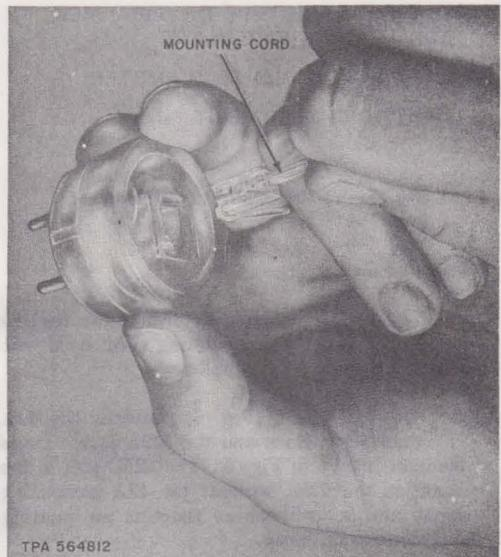

Fig. 10—225A Adapter
(b) The 225A adapter (Fig. 10) is used to adapt the D4BU mounting cord to 404B (MD), 493A (MD), 497A (MD), 548A, and 549A jacks (4-pin jack).